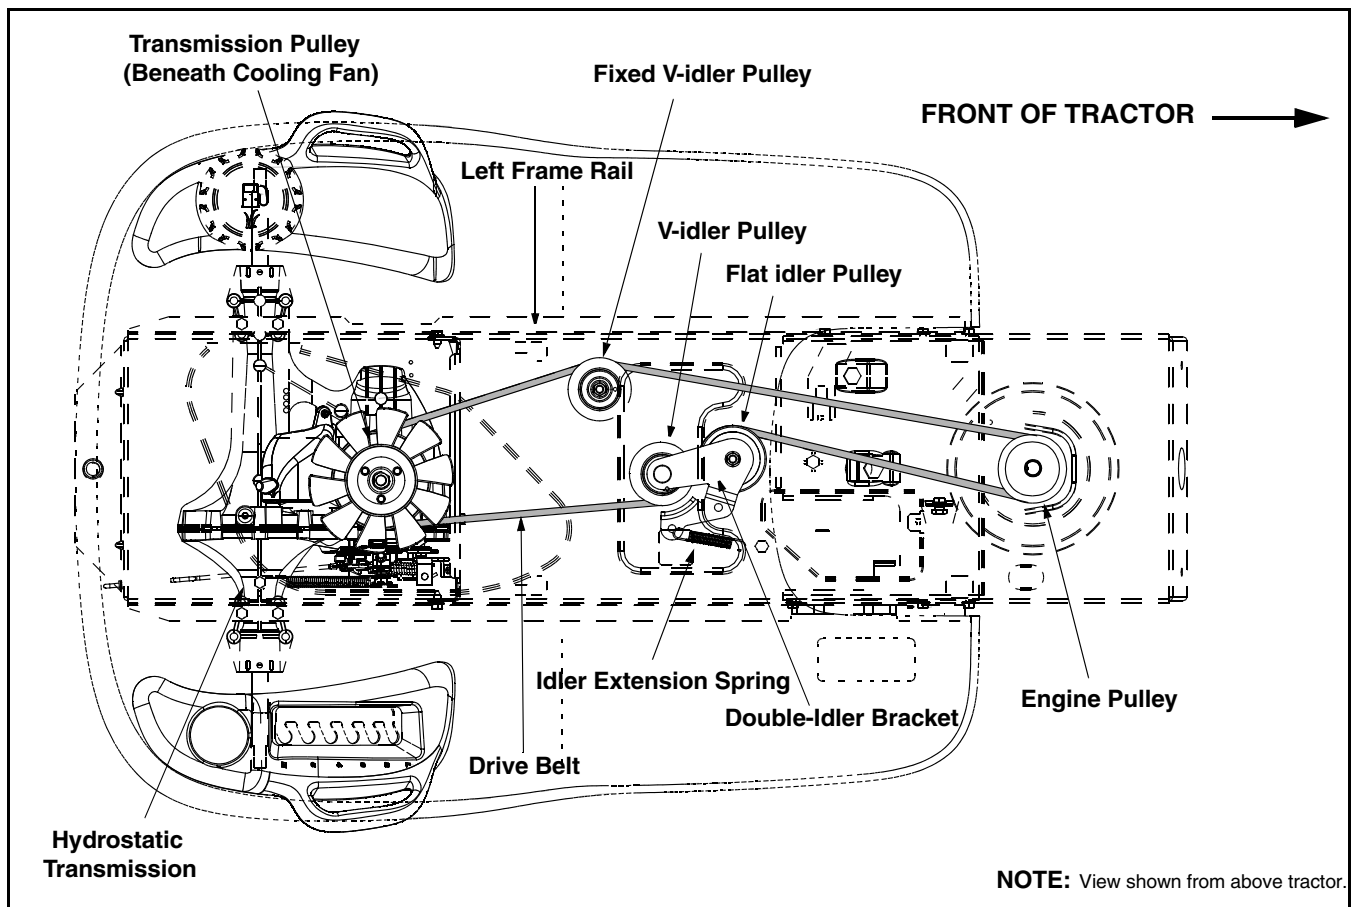

Figure 20
- Locate the fixed v-idler pulley found on the left underside of the frame. See Figure 20.
- Grasp the belt on both sides of the pulley and gently move it toward the left frame rail allowing it to unseat itself from the fixed v-idler. See Figure 20.
- Remove the drive belt by feeding it from front to rear, toward the hydrostatic transmission. See Figure 20.
- Reroute the new belt around the pulleys and belt keepers, if present, **EXACTLY** as the old one was routed. Refer to Figure 20.